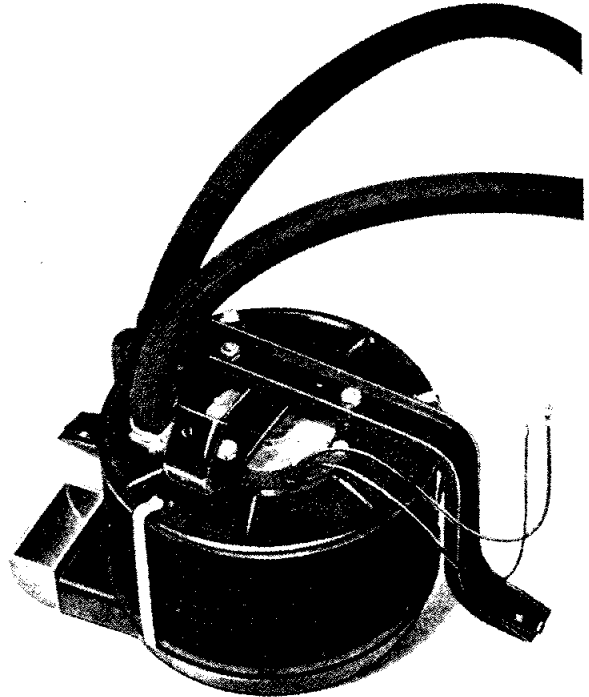

Fig. 12 The Heater Unit ready for assembling into position
10. One side of the control switch (13) should be connected to the live side (L.H.) of the windscreen wiper switch. Attach the length of wire (12) supplied at one end with a snap connector nipple to the other side of the switch leaving the completion of the circuit until operation 16.
11. Attach the mounting bracket (15) to the heater unit securing it with three spring washers and nuts. Assemble the two longer lengths of water hose (20) on to the adapters on the heater and secure with clips (19). Fit and secure alloy elbow piece (5) to heater unit (Fig. 12).